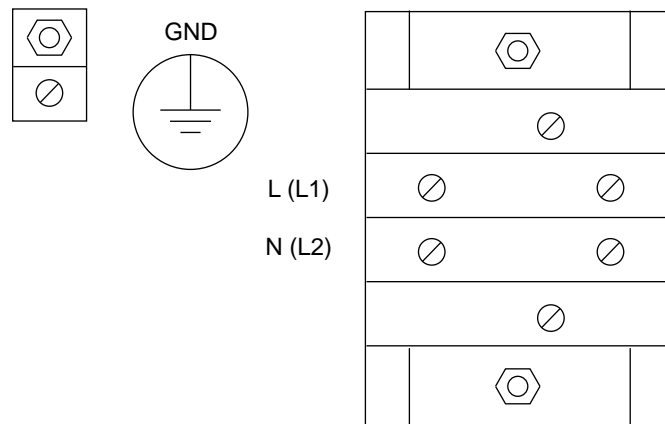

FIGURE 2-4. Terminal Block and Grounding Connections
Refer to Figure 2-4 during this procedure.
1. For applications requiring a single ground point, use 6-gauge wire. The ground wire exits from the cabinet in the cable management area near the hinge of the back door. Figure 2-4 shows the terminal block and ground connection, to the left inside the back door.